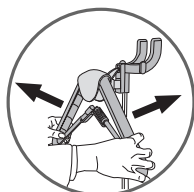

fig.7
3. Spread out the arms of the hanger - fig.7 and 8